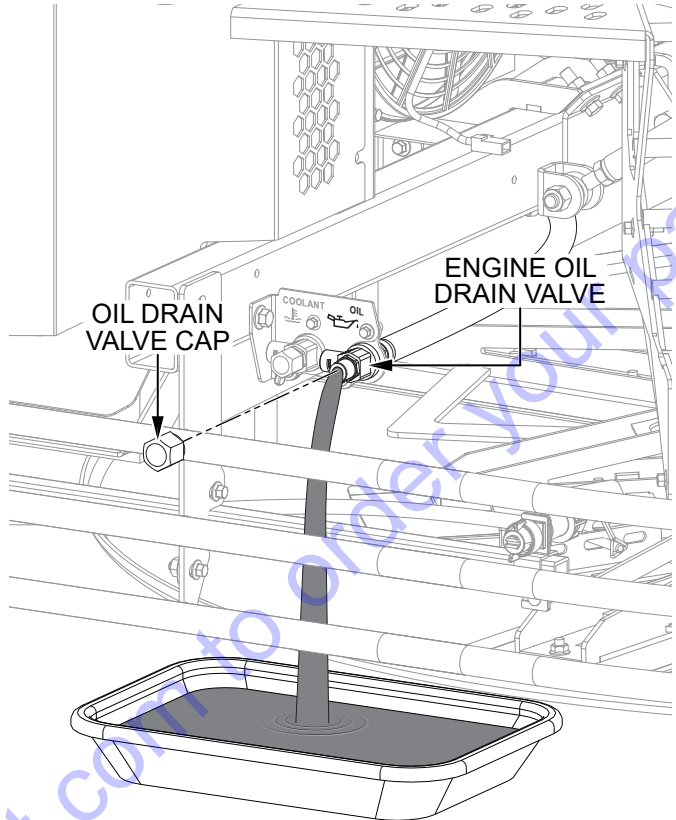

Figure 64. Draining Engine Oil
3. Place an appropriate container beneath the engine oil drain valve (Figure 64) to catch the oil as it drains.
4. Remove the oil drain valve cap and open the valve to drain the engine oil (Figure 64).